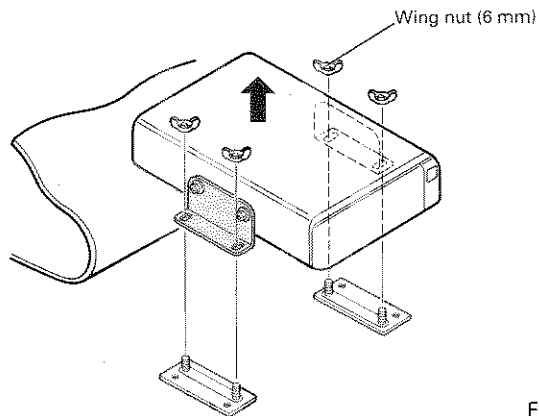

Fig. 4
4. Remove the wing nuts and remove the player from the mounting base. (Fig. 4)